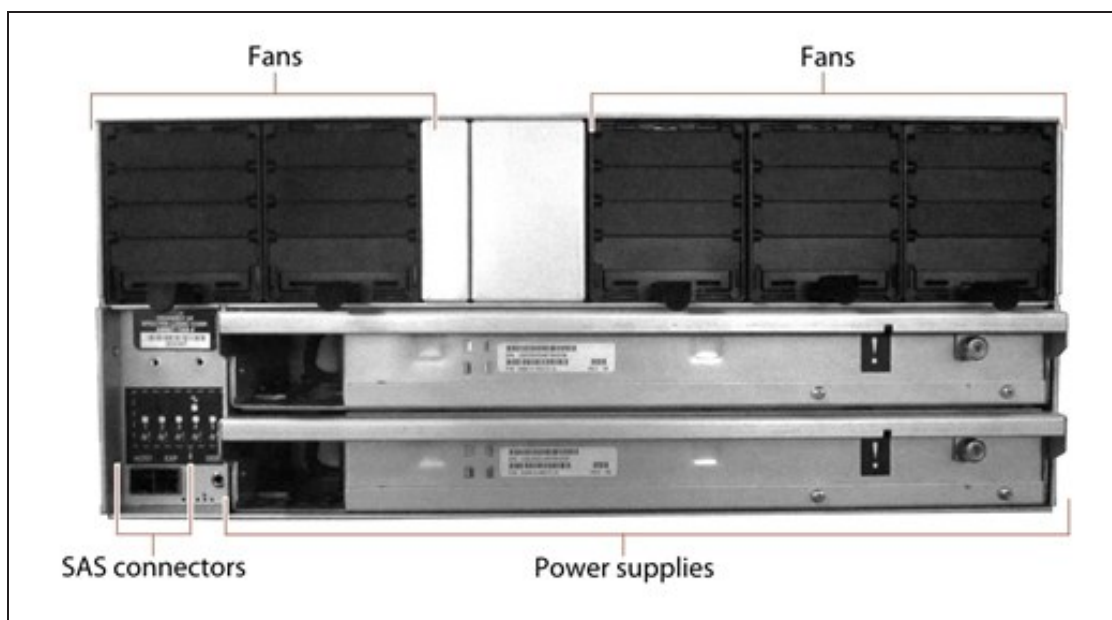

Figure 25 The rear view of the 96-bay expansion node.
Figure 25 shows the major components on the rear of the 96-bay expansion node.
- To power on a 77-bay, 96-bay, or 107-bay expansion node, connect power cables to the power supplies on the rear of the expansion node chassis (see Figure 16 on page 54 and Figure 25 on page 65), then plug the power cables into power outlets near the chassis. The expansion node immediately powers on. Wait approximately four minutes while the expansion node initializes before powering on the BlackPearl master node.